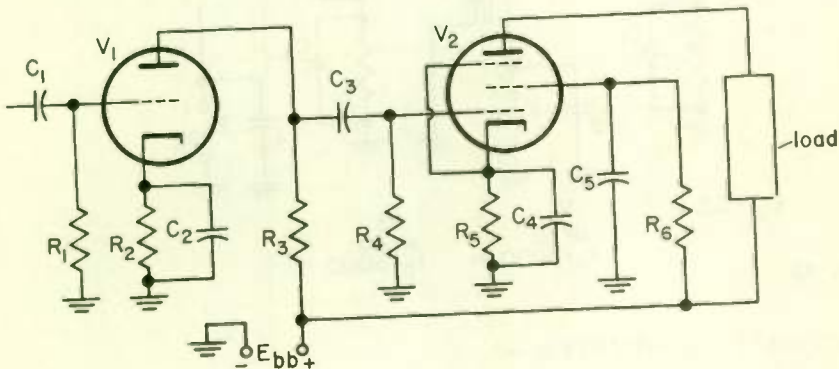

Fig. 41
8. Refer to Fig. 41. As the frequency of the signal voltage applied to the grid of V_1 decreases below 75 Hz, the signal voltage gain of stage V_1 will
- (1) increase because no signal current is lost through stray capacitances.
(2) decrease because the reactance of C_3 decreases.
(3) decrease because of regeneration caused by C_2 .
(4) decrease because the reactance of C_1 and C_2 increases.
9. Refer to Fig. 41. As the signal voltage frequency increases above 15 kHz, the signal voltage applied to the load